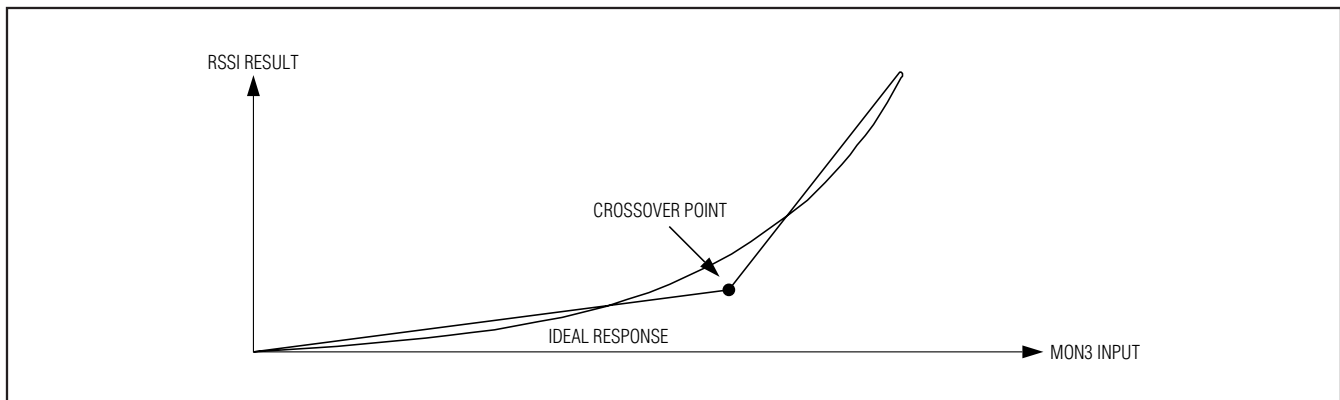

Figure 8. RSSI with Crossover Enabled
- Crossover Enabled:** For systems with a nonlinear relationship between the ADC input and desired ADC result, the mode should be set to crossover enabled (Figure 8). The RSSI measurement of an APD receiver is one such application. Using the crossover enabled mode allows a piecewise linear approximation of the nonlinear response of the APD’s gain factor. The crossover point is the point between fine and coarse points. The ADC result transitions between the fine and coarse ranges with no hysteresis. Right-shifting, slope adjustment, and offset are configurable for both the fine and coarse ranges. The XOVER FINE register determines the maximum results returned by fine ADC conversions, before right-shifting. The XOVER COARSE register determines the minimum results returned by coarse ADC conversions, before right-shifting.